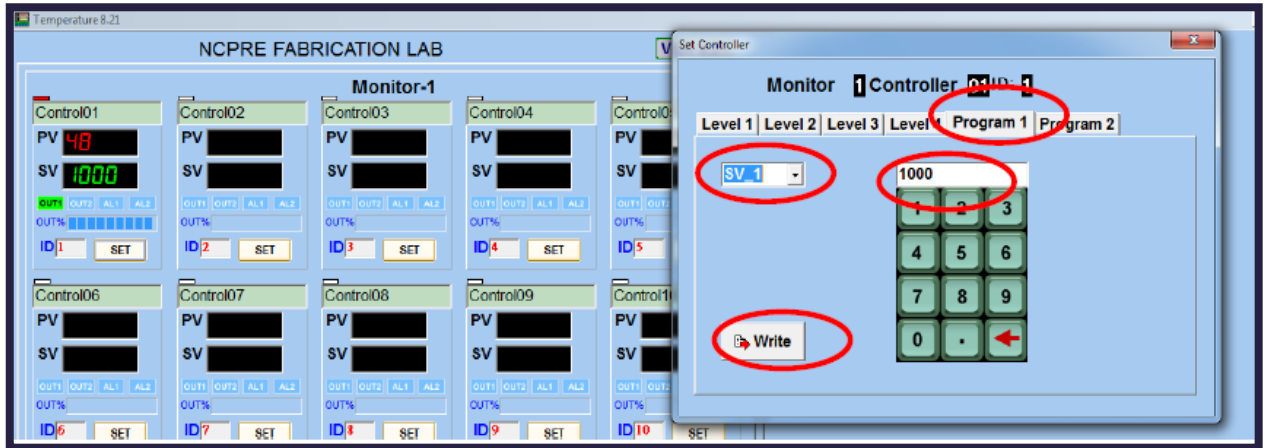

Figure. 22
12. To enter step by step recipe, click on the "Program 1" tab. It will ask for the set value of the temperature (in °C), the time duration for reaching it (in hr: min) and the output power (in %) with the fields from drop down such as "SV_1", "TM_1" and "OUT_1" respectively. The digits in these fields change from 1 to 8, to enter 8 step programs (Figure. 22 & 23).